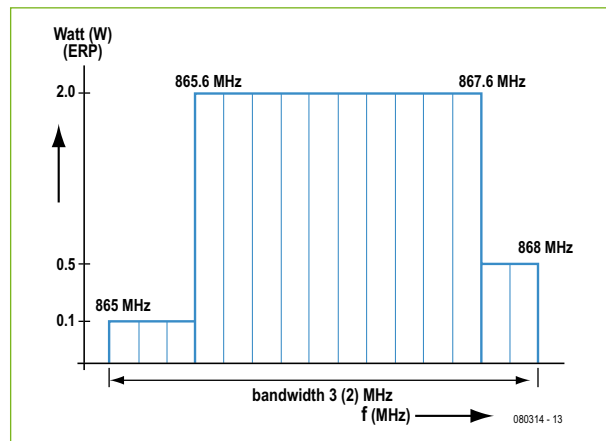

Figure 5. RFID frequency allocation for Region 1 (chiefly Europe).
- Region 1 includes Europe, Africa, Middle East and the former Soviet Union — see **Figure 5**;